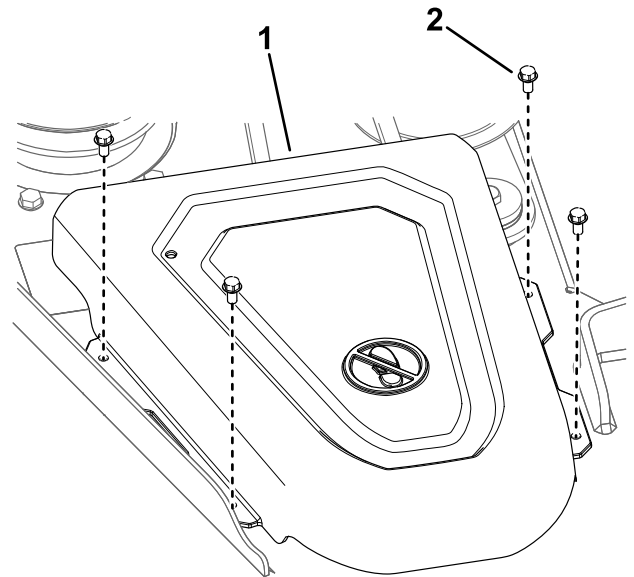

Figure 52
4. Remove the pulley covers (Figure 52).